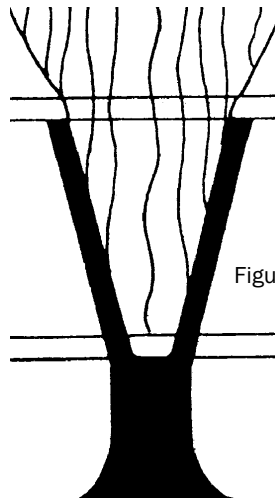

Figure 1
It is important to properly fit a handle to a tool to achieve maximum working efficiency and safety. This is especially true with a socket-type tool where only friction holds the handle and tool together (Figure 1). To make this bond, the forward end of the wooden handle must be shaped by filing, scraping, or whittling until it exactly matches the inside taper of the tool's socket. This is done by repeatedly inserting the handle in the socket, twisting it in place, then removing it and shaping off the "high" rubbing spots until finally the whole handle surface touches the metal socket walls. It is important to leave a space of  $\frac{1}{8}$ " to  $\frac{1}{4}$ " at the bottom of the socket to allow the handle to move down as it compresses during use (X). The taper of the handle should also extend this same distance above the socket edge to allow room for this handle movement.